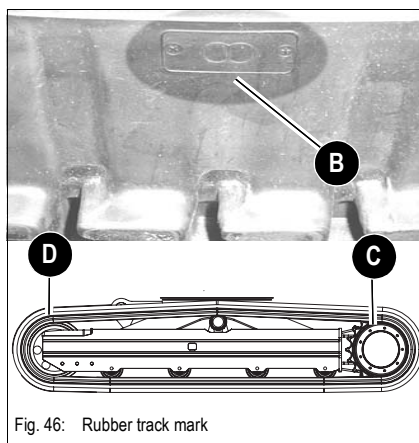

Fig. 46: Rubber track mark
- The rubber track has a mark **B** as shown in Fig. 46.